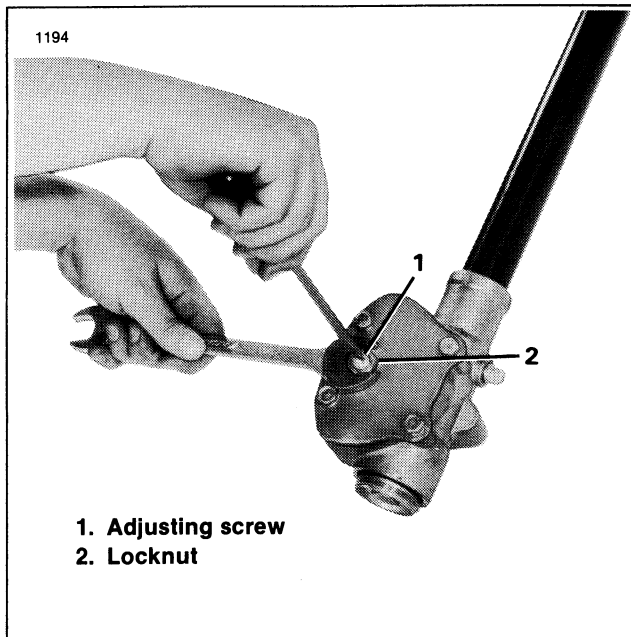

Figure 2-7. Making Over Center Adjustment
6. See Figure 2-7. Loosen locknut (2) and turn adjusting screw (1) in just enough to eliminate play. It will be necessary to use a right angle screwdriver to turn screw (1) if adjustment is made with steering gear unit mounted in car.